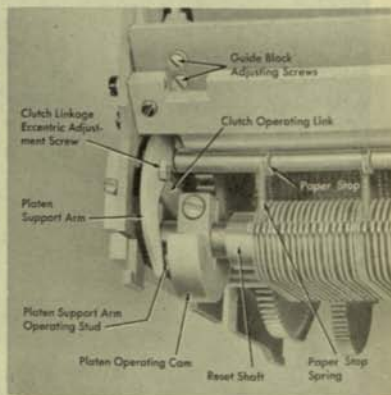

Figure 31
2. Adjust the clutch link eccentric screw so that the floating clutch gear engages the same amount into the clutch block for item counting and into the clutch pinion gear for graph printing and resetting (Figure 31).